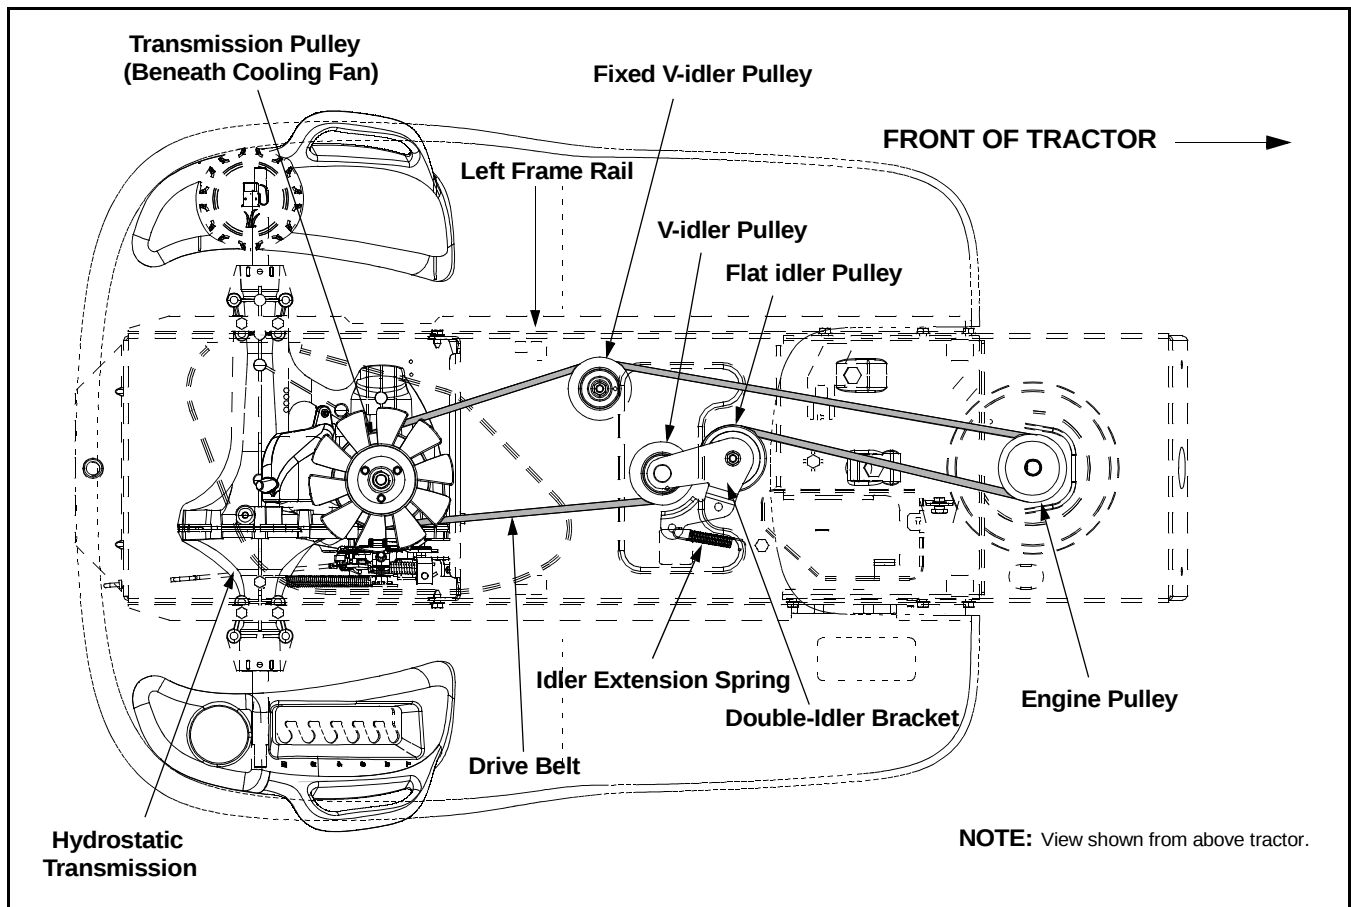

Figure 28
IMPORTANT: Note the routing of the drive belt both on the tractor and in Figure 28 BEFORE performing the following steps.
- Locate the fixed v-idler pulley found on the left underside of the frame. See Figure 28.
- Grasp the belt on each side of the pulley and carefully move it toward the left frame rail, then downward to disengage the belt from the fixed idler pulley. See Figure 28.
- Remove the drive belt by feeding it from front to rear, toward the hydrostatic transmission. See Figure 28.
- Install the new belt routing it EXACTLY as the old one was routed. Refer to Figure 28.